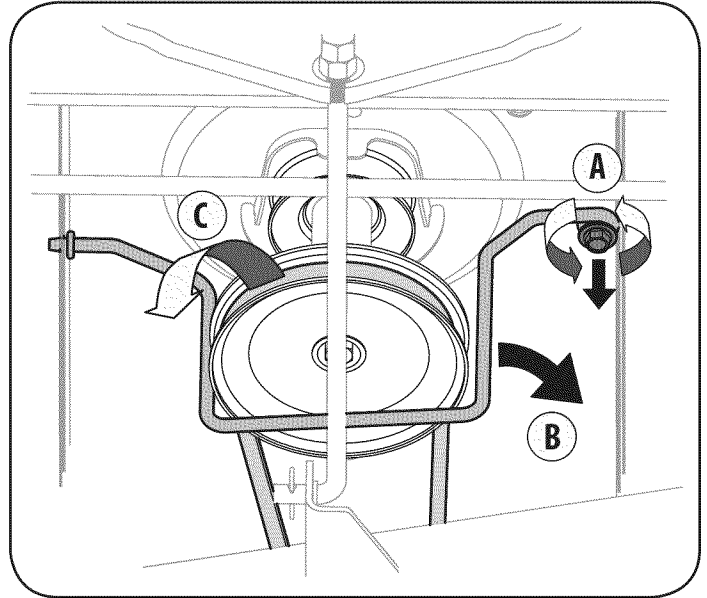

Figure 17
3. Remove the self-tapping screw (A) that secures the belt-keeper rod from around the tractor's PTO pulley, then remove the belt keeper rod (B). See Fig. 17.
4. Remove the belt (C) from around the tractor's PTO pulley. See Fig. 17.